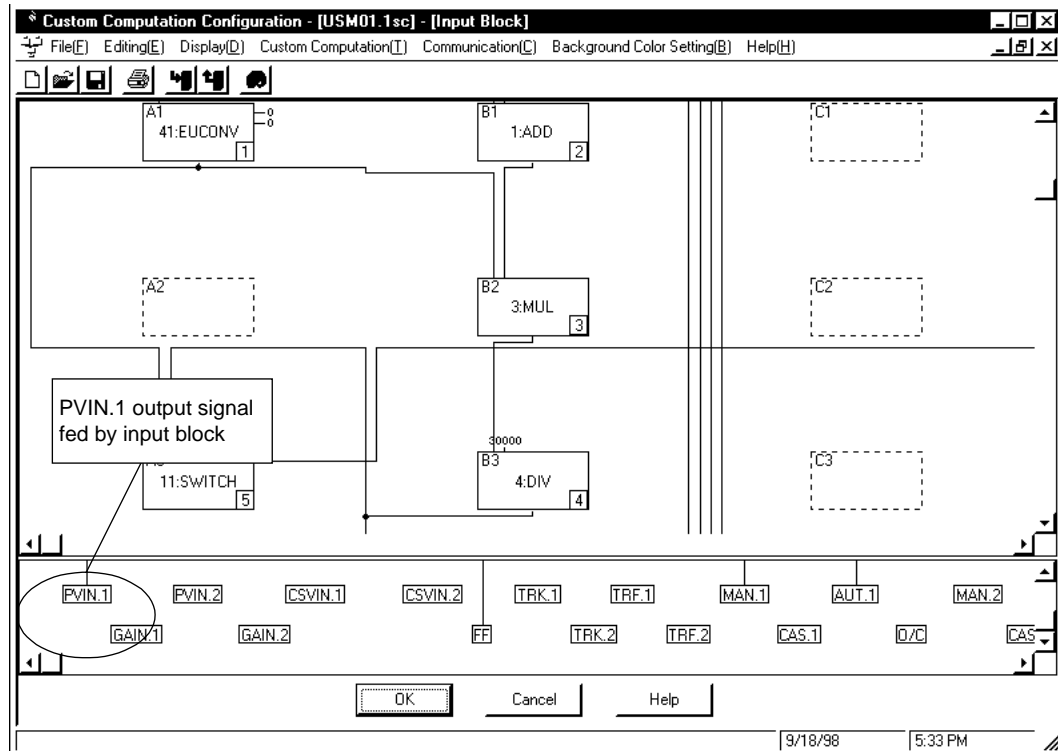

Figure 12.3.8 Output Signal Fed by Input Block
- ① In the [Input Block] dialog box (Figure 12.3.8), click the <PVIN.1> output signal.